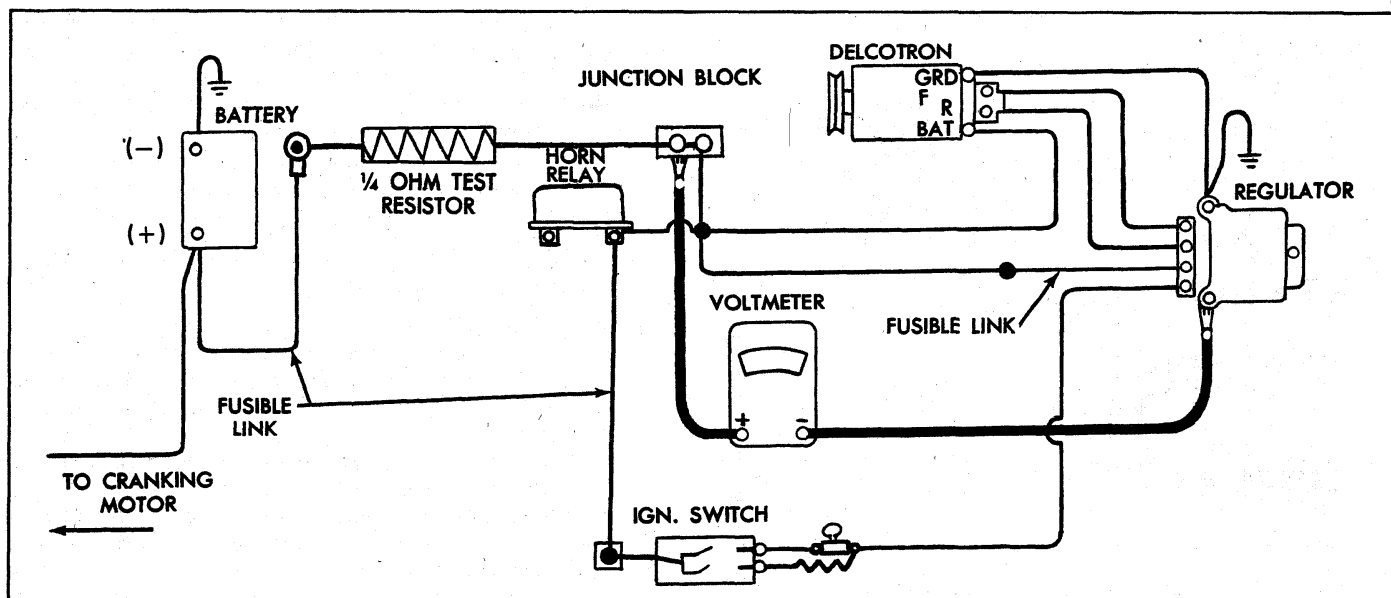

Fig. 7c—Voltage Setting Test Connections
7. Connect a 1/4 ohm-25 watt fixed resistor (purchased commercially) into the charging circuit at the junction block as shown in Figure 7c.